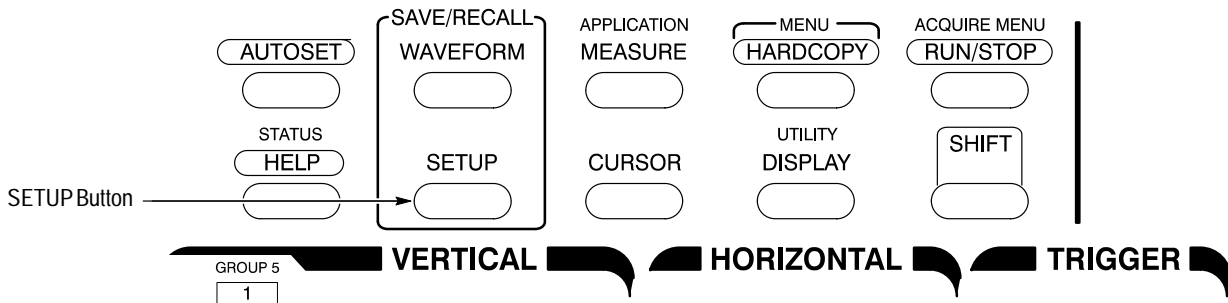

Figure 1-4: SETUP Button Location
1. Press the save/recall **SETUP** button to display the Setup menu (Figure 1-4).